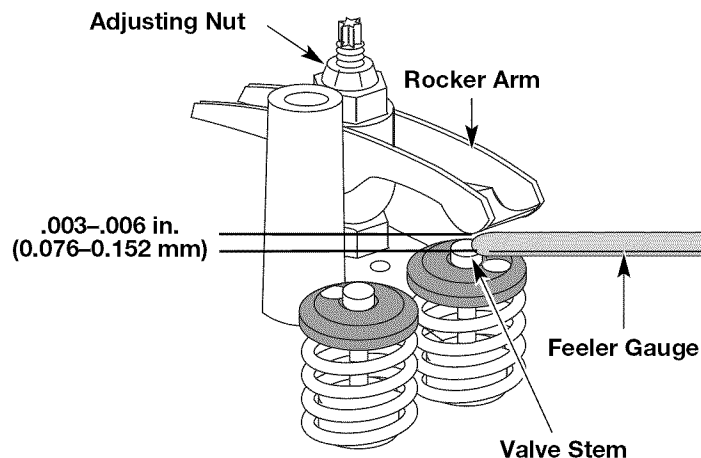

Fig. 31
- a. Turn the adjusting nut using a 5/16 inch (8 mm) wrench or nut driver (Fig. 31).